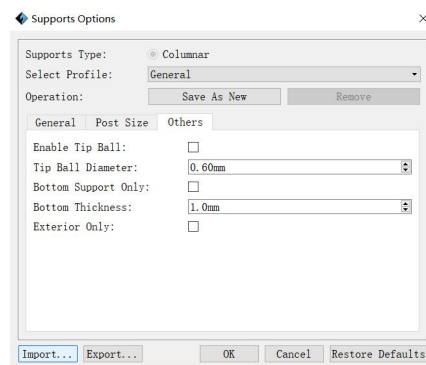

Figure 12 Other settings interface
C.Other setting: As shown in Figure 12.